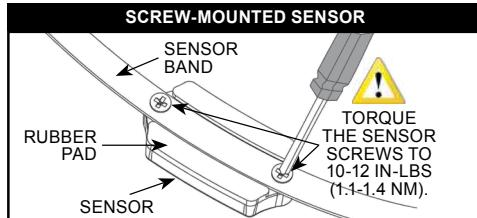

Figure 1: Screw-mounted internal sensor
3. If the sensor is not already attached to the band, attach the sensor to the sensor band with the two screws. Torque the screws to 10-12 in-lbs (1.1-1.4Nm). See *Figure 1*.